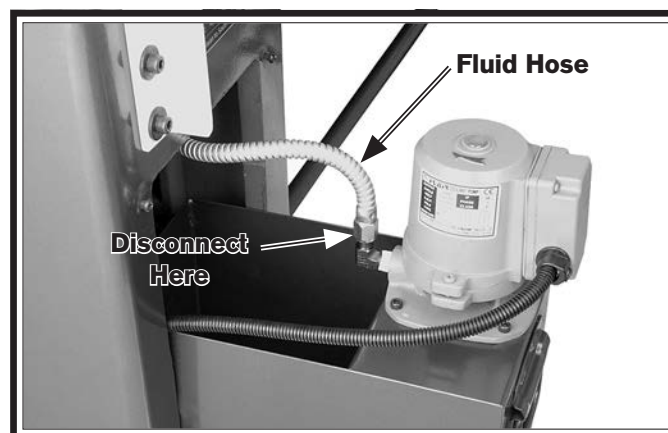

Figure 120. Fluid hose and connection.
6. To enable the remaining fluid to be poured out in the next step, disconnect the fluid hose from the pump (see **Figure 120**).